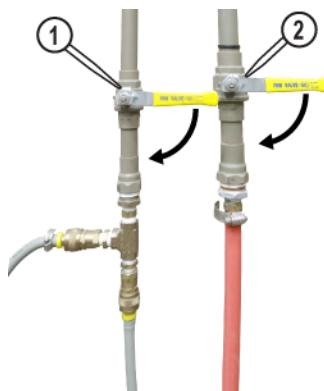

Figure 35
3. Open the **water supply valve** [2] (Figure 35).